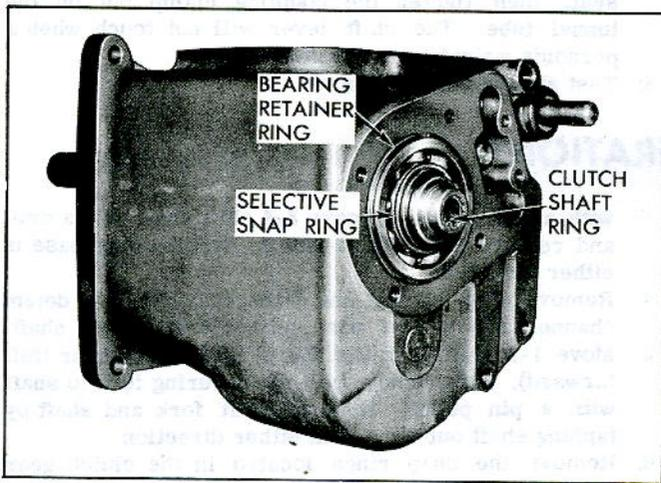

Fig. 7B-4—Clutch Gear and Bearing Snap Rings
- d. Remove the clutch gear bearing by turning puller screw in J-8880 as shown (fig. 7B-5). Separate puller plates from bearing.
8. Remove two rear bearing retainer snap rings. Remove mainshaft with assembled gears and rear bearing retainer as shown in Figure 7B-6. It may be necessary to jiggle the output shaft, making sure the clutch gear does not separate from mainshaft. After removal of mainshaft from transmission, shift synchronizer sleeves to neutral.
9. Using a pin punch, drive roll pin from reverse shifter head (fig. 7B-7), then remove shifter head and shaft from case by tapping shaft out in either direction with a drift.